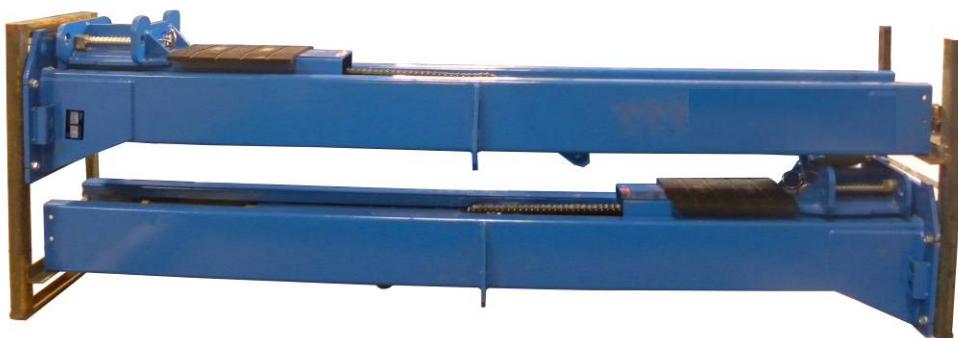

Fig. 8
3. Take off the parts from upper and inside the column, then take out the parts box, and check the parts according to the shipment parts list (See Fig. 8).